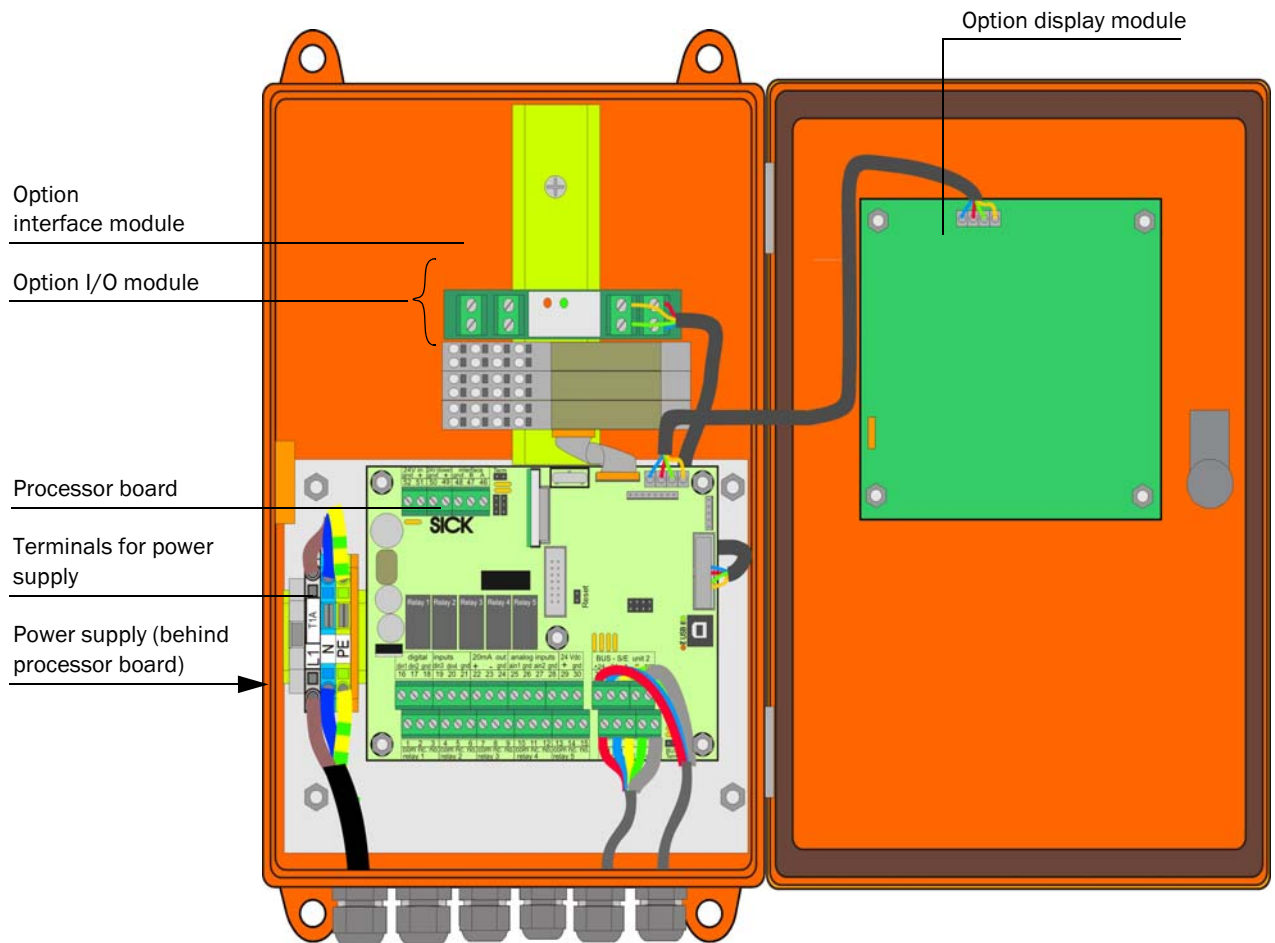

Fig. 3.23: Component alignment in the MCU (without purge-air supply, with options)
- ▶ Connect the power supply cable to terminals L1, N, PE (see **Fig. 3.23**.)